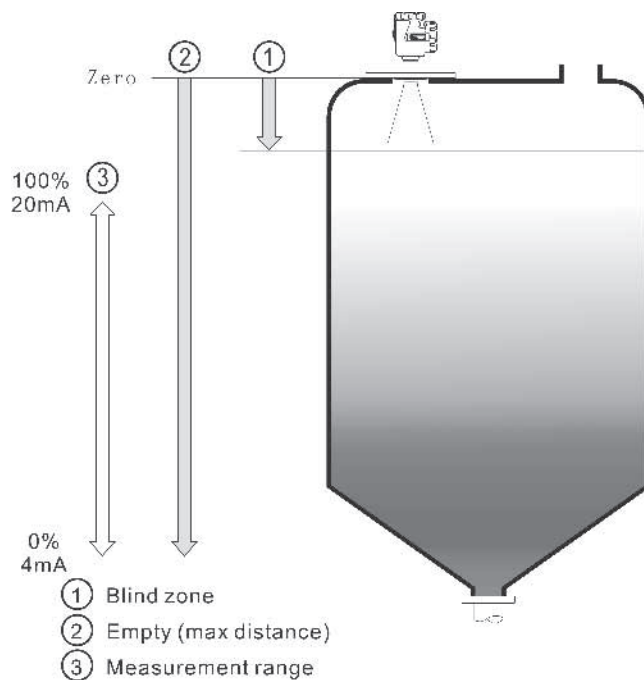

Fig.5
- the maximum level must not enter into blanking zone (the area between the measurement reference plane and the antenna end). See Fig.5.